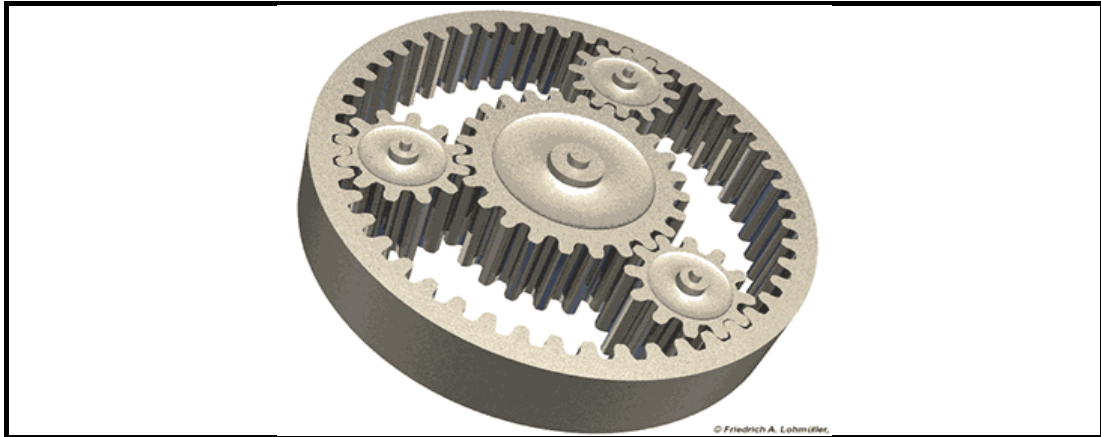

FIGURE 4.12
4.12 Identify the type of gear system arrangement displayed in FIGURE 4.12 below.